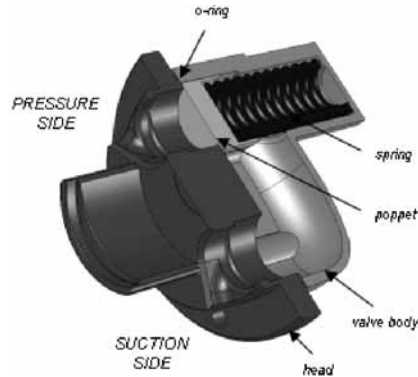

Figure 2.10 – relief valve
- **Crack pressure** is the pressure at which the poppet just begins to lift off the seat. This pressure is not affected by variations in fluid viscosity or pump speed. The pump will provide full flowrate at all pressures below the cracking pressure (see Figure 2.10).
- **Full bypass pressure** is the pressure that occurs when 100% of the pump's flowrate is bypassing internally through the valve, and no flow is exiting the pump (see Figure 2.10). This pressure is higher than crack pressure, and varies depending on fluid viscosity and pump speed.